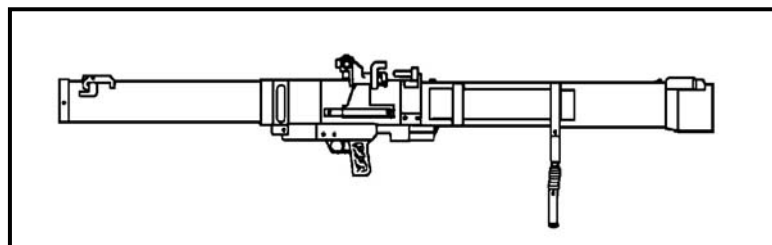

Figure H-10. Russian 105-mm antitank grenade launcher, RPG-29.
e. **Russian 105-mm Antitank Grenade Launcher, RPG-29** (Figure H-10).